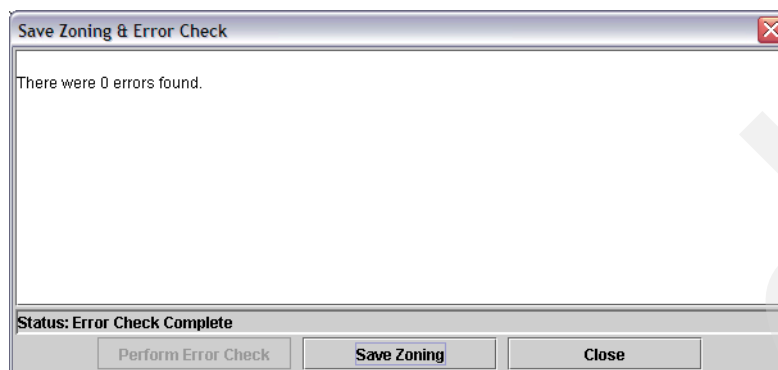

Figure 24-10 Error Check
7. Save the new zoning; click **Apply** and the Save Zoning & Error Check window appears (Figure 24-10). Click **Perform Error Check**, and if no errors are found, click **Save Zoning**.